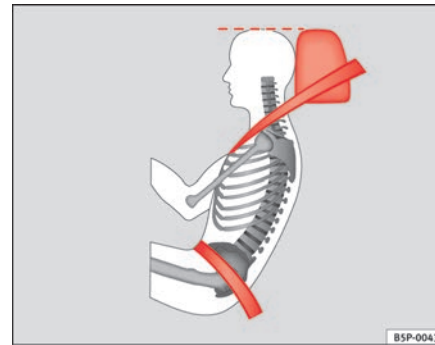

Fig. 14 Correct belt web and head restraint positions, viewed from side ▶
- The lap part of the seat belt must lie across the pelvis, never across the stomach. The seat belt must lie flat and snugly on the pelvis ⇒ page 24, fig. 14. Pull the belt tight if necessary to take up any slack.